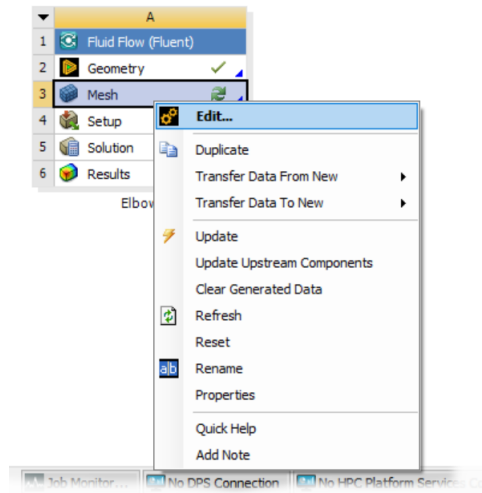

Figure 22: Launching ANSYS Mesh.
- In the main window, position the mouse on *Mesh* in the project scheme by right-clicking and selecting *Edit*, as in figure 22, or double-click with the left button.